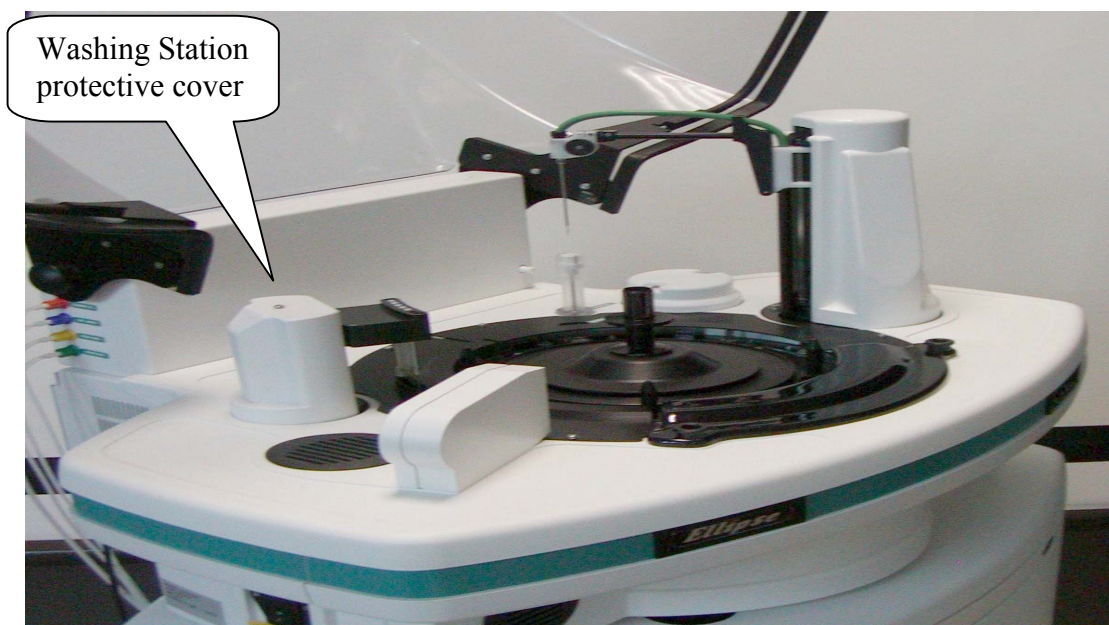

Fig.1 Instrument Top view
2. Unscrew the fastening screw and remove the Washing station protective cover (Fig. 1).
14. Remount the Washing station protective cover (Fig. 1).